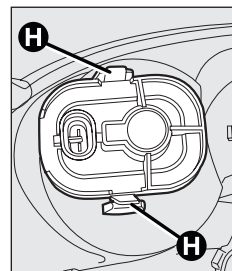

fig. 24
- ☐ to replace the rear fog light, release the clips **H**-fig. 24, remove the protection and replace the bayonet bulb.